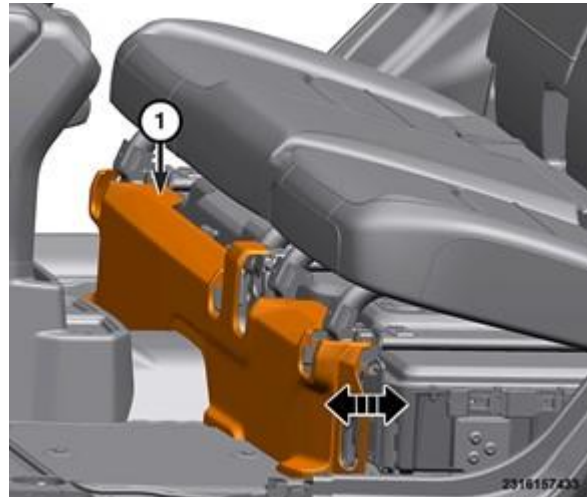

**Figure 29 – HV Battery Front Trim**
28. Using a trim stick or equivalent, release the retainers from the front high voltage battery closeout and remove from vehicle (Figure 29).
41. Align and install the retainers from the front high voltage battery closeout to the vehicle (Figure 29).